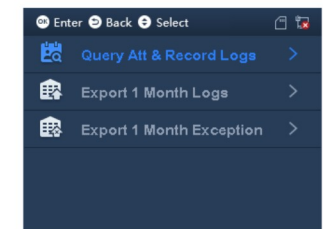

Figure 2-18
Enter main menu, click ① or ② to select Data, click ③. Or click number key 3 directly. See Figure 2-18.